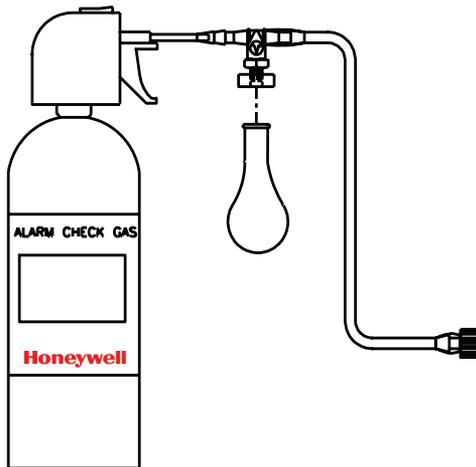

Figure 5 - Alarm Check Gas (P/N: TEST-1A)
- Attach blue balloon on to black disk on alarm check gas hose. (See **Figure 5**)